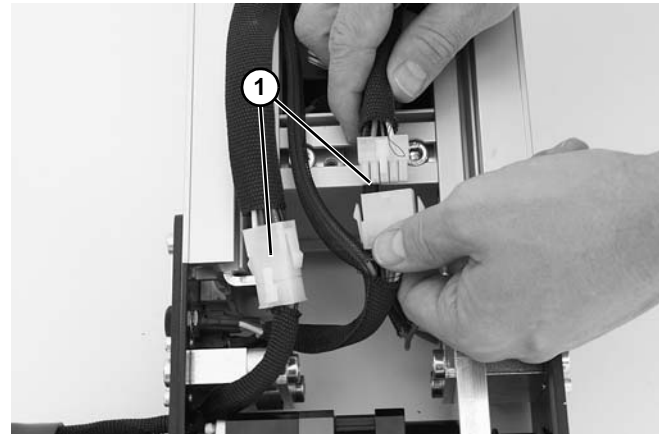

Figure 158
3. Disconnect two wiring harness connectors (**Figure 158, item 1**).